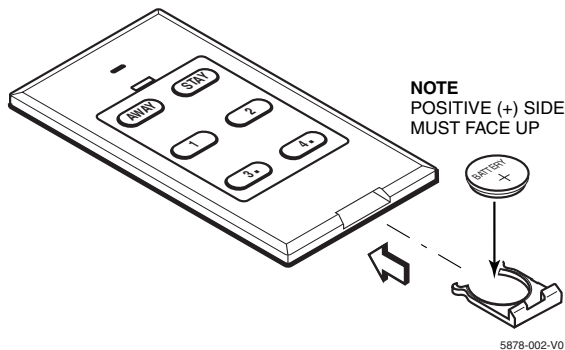

Figure 2 - Battery Replacement
4. Insert a new battery in the tray as shown in Figure 2. **Positive (+) end must face up.** Use Maxell CR2032, Duracell DL 20325, or Varta CR2032 lithium battery only.